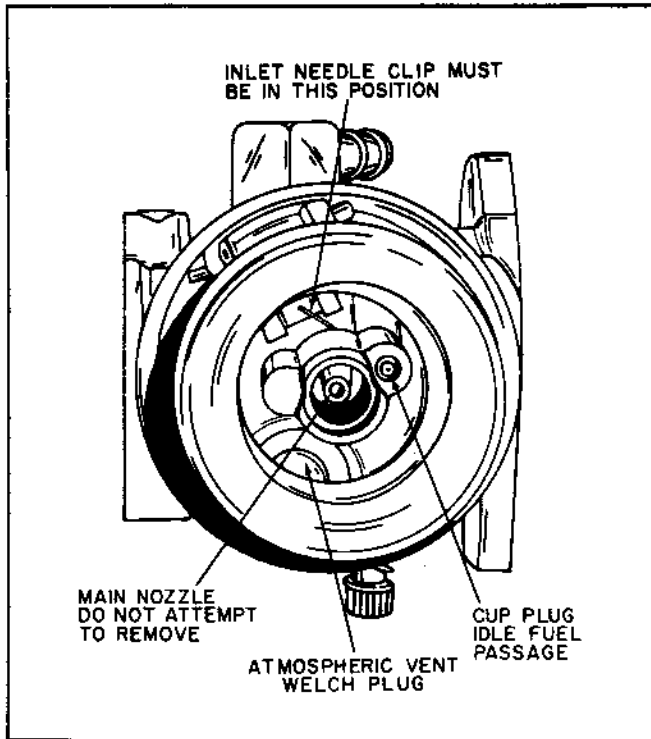
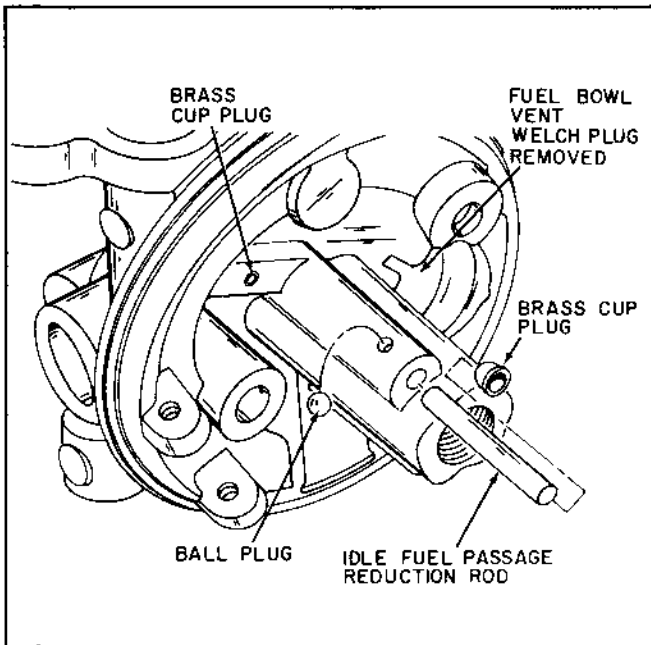

Figure 3-12
Figure 3-13. Cleaning Idle Fuel System
- (1) It may be necessary to remove the large welch plug (Figs. 3-12 and 3-13) if excessive dirt has accumulated in the atmospheric vent cavity, or it may be possible to clean this cavity with carburetor cleaner or compressed air without removing the welch plug.
- (2) The carburetor body contains a main nozzle tube (Fig. 3-12) pressed into the carburetor body to a predetermined depth and positioning within the venturi of the carburetor. Do not attempt to remove this main nozzle. Any movement of this nozzle will seriously affect the metering characteristics of the carburetor and will require replacement of the entire carburetor.
- (3) Clean the accelerating well surrounding the main nozzle with compressed air and carburetor cleaning solvents. With the choke plate and shaft removed, compressed air may be blown in through the high speed air bleed, (located just behind the lower choke shaft bearing and immediately in front of the venturi) to remove any dirt that may have accumulated.
- (4) The carburetor body contains two cup plugs (Fig. 3-13).
- (b) Another cup plug is located in the base (Figs. 3-12 and 3-13) where the fuel bowl nut seals the idle fuel passage. Removal of this plug will allow removal of the metering rod (Fig. 3-13) from the idle fuel passage. A new plug must always be used for replacement, and must be tightly sealed when it is replaced.
- (c) A small ball plug (Fig. 3-13) located on the side of the idle fuel passage allows access to the idle fuel cross passage. This small fuel passage has been calibrated. Do not insert improper sized drill rods for cleaning purposes. If removed, it is very important that the cross passage be tightly sealed with a new plug.